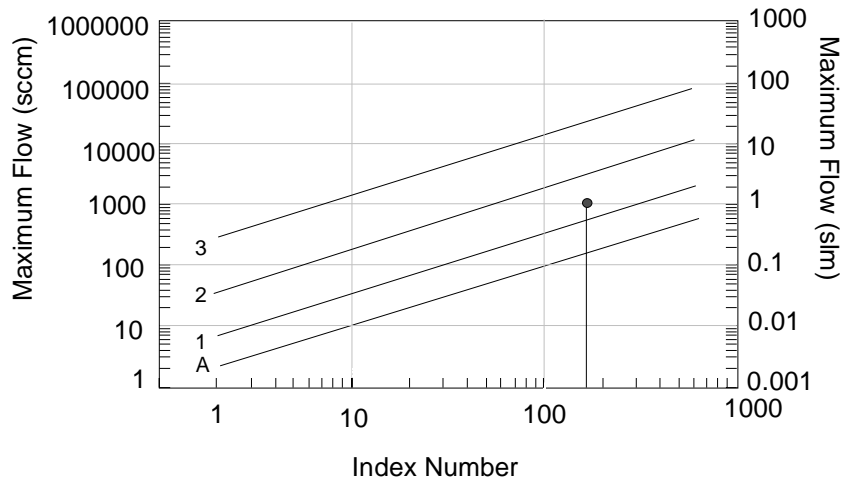

Figure 15: Flow Range Selection
The valves are not calibrated to match the valve orifice selection graph in Figure 15, page 55. The graph displays *typical* valve behavior.
- Use the index number and your maximum flow rate, to determine the orifice size from Figure 15.